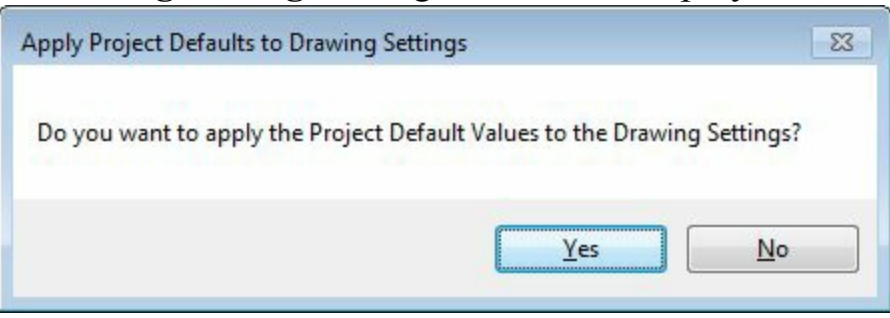

Figure-7. Apply Project Defaults to Drawing Settings dialog box
- Click on the **OK** button from the **Create New Drawing** dialog box. The **Apply Project Defaults to Drawing Settings** dialog box will be displayed; refer to Figure-7.